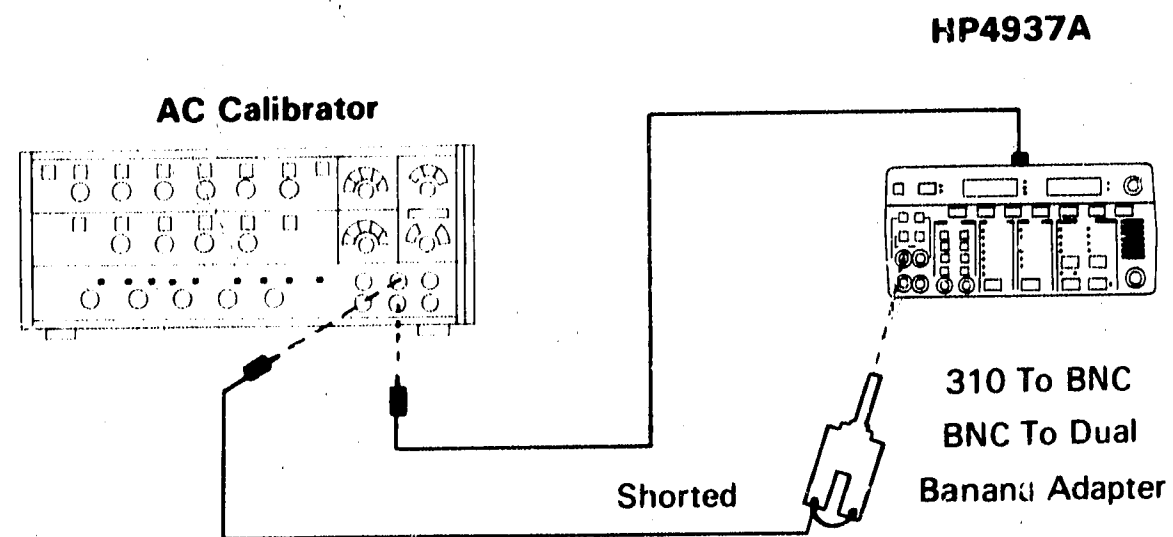

Figure 4-8. Noise to Ground Test
1. Connect equipment as shown in figure 4-8.